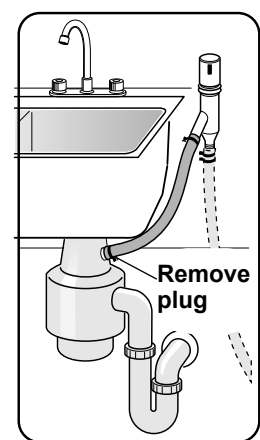

Figure 11
4. To a disposer dishwasher drain connection through an air gap, as shown on **Figure 11**.